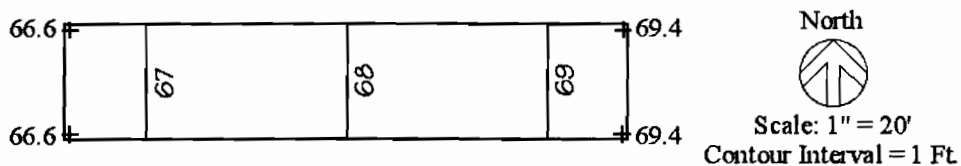

Figure 12. Draw and Label all Whole Number Contour Lines
Step 7. Draw and label contours as shown in Figure 12. This completes the process of plotting whole number contour lines on this simple plane surface.